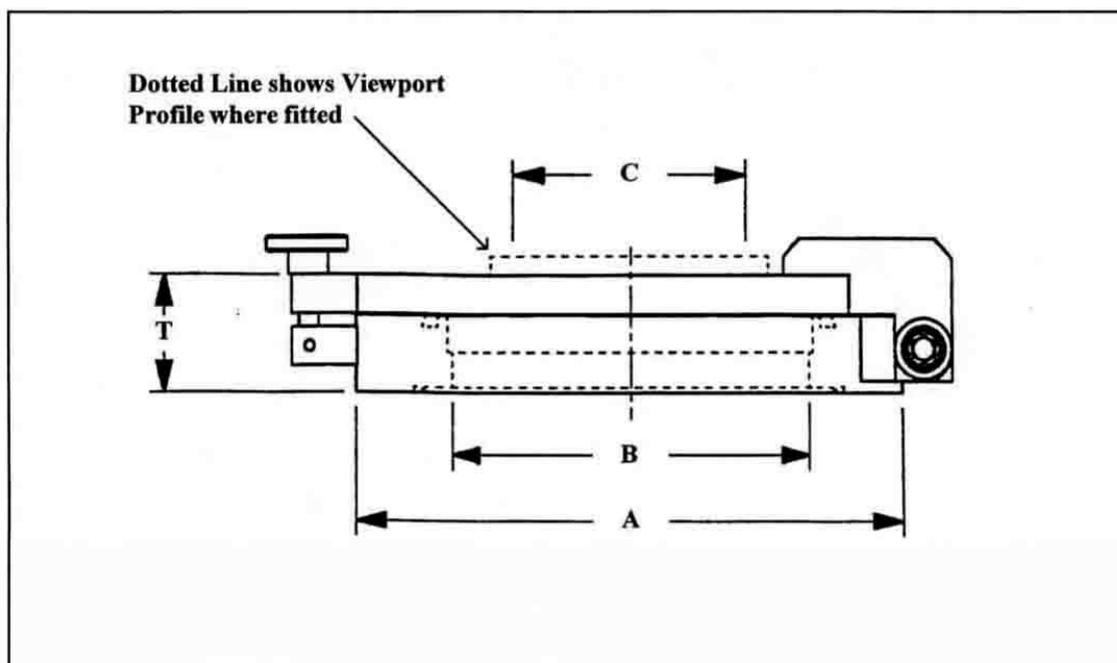

Figure 1- Dimensions of the HD and HD..V loadlock doors
2.0 Specification (see figure 1)